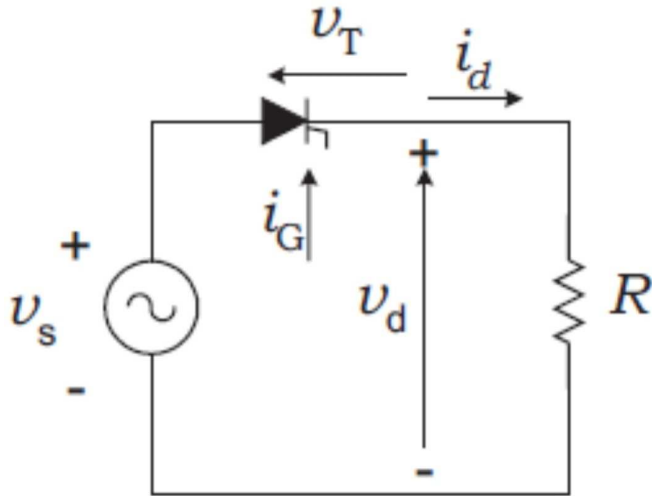
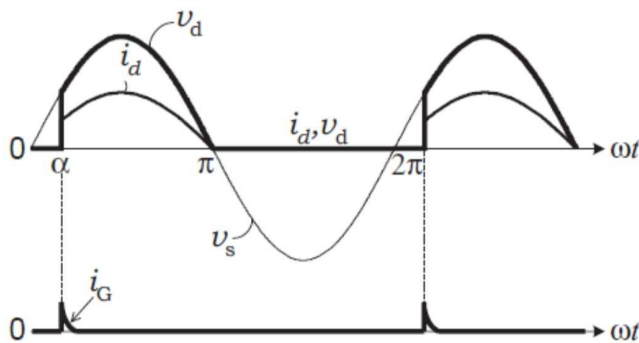

Fig. 1: Operation of Thyristor
Fig. 2: Transistor Analogy
alternating p- and n-type material. The gate terminal is used to control the SCR, the anode (A) and cathode (K) are connected in series with the load. The SCR is just a controlled diode. The Thyristor and transistor analogy of SCR is shown in Fig. 1 and Fig. 2.